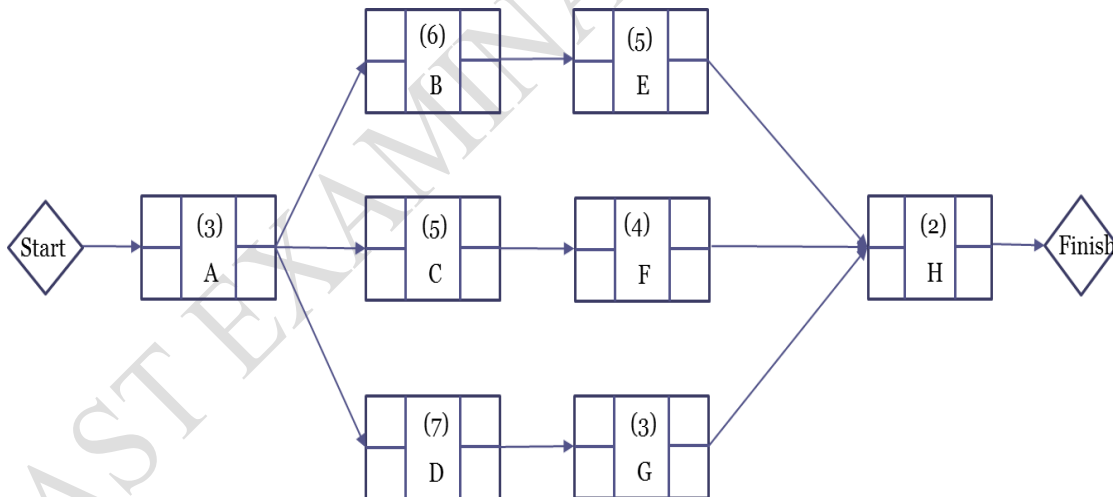

Figure Q4
The network diagram in **Figure Q4** represents a planning programme for construction activities in a project as viewed by the construction manager. Activities duration are given in weeks.
- (ii) All project activities in **Figure Q4** require continuous craneage. The contractor owns one crane costing £1575/week and the cheapest crane hire would cost £1980/week. Produce a full annotated bar chart for the activities on the graph paper provided (use landscape orientation) and determine the **minimum cost** of craneage to the contractor. **(10 marks)**